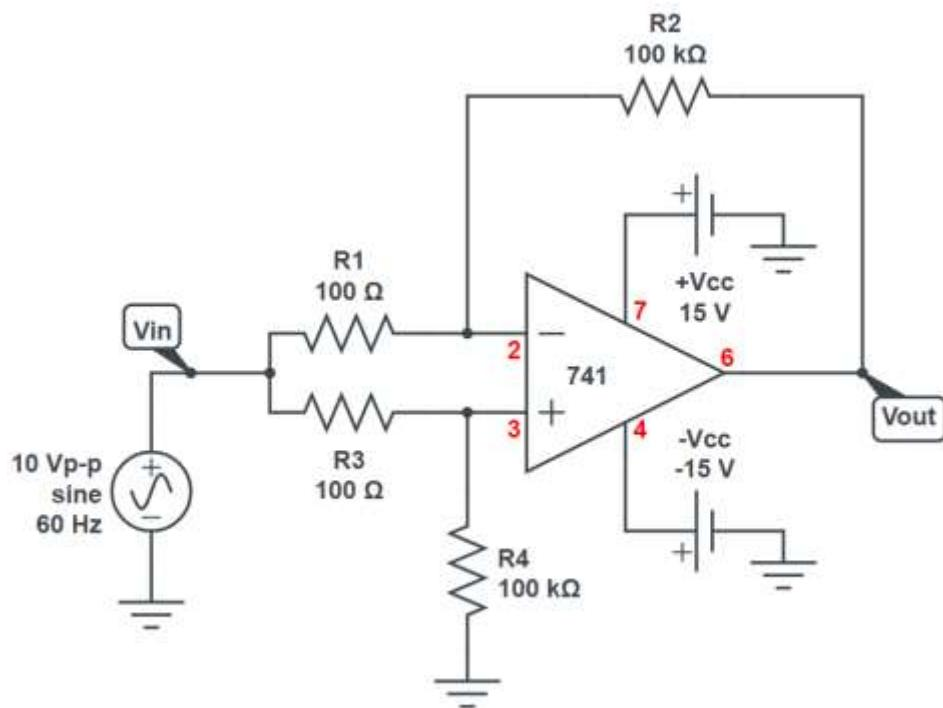

FIGURE 12.2-1: Schematic Diagram of Circuit
- 5) In some instances, the CMR may be improved by trimming one or more of the resistors of the circuit in Figure 12.2-1. Disconnect the AC signal generator and DC power supplies from the circuit. Replace R_4 with a series connection of a $100\text{ k}\Omega$ potentiometer and a $10\text{ k}\Omega$ resistor.